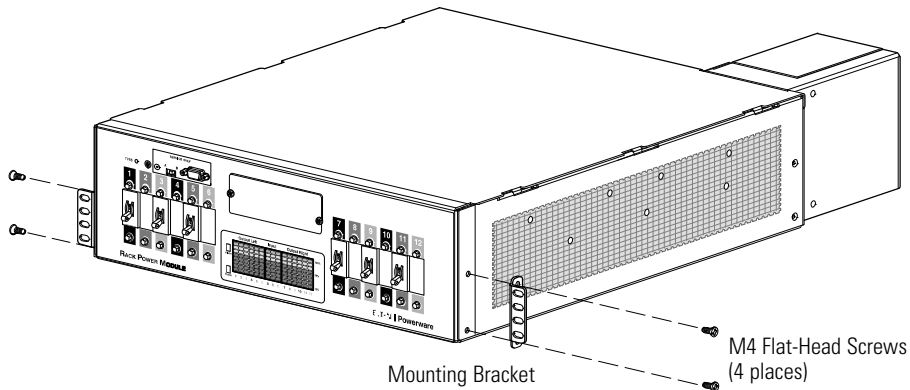

Figure 3. Installing the Front Mounting Brackets (Hardwired Unit Shown)
1. Align the front mounting brackets with the screw holes on the sides of the RPM-3U/3Ui as shown in Figure 3.